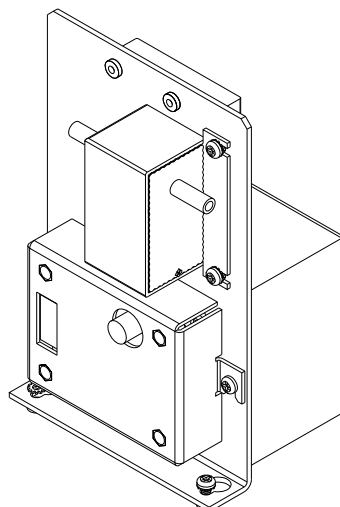

Figure 7–9. Replacing the PMT High Voltage Power Supply (HVPS)
4. Loosen the two retaining screws securing the power supply bracket to the floor plate and slide the power supply towards the rear slightly and lift it off the base screws (**Figure 7–9**).